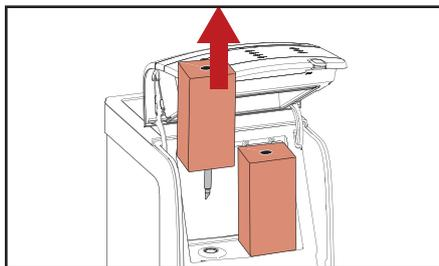

Fig. 5.8 - Remove packs
- Remove the product packs (fig. 5.8).